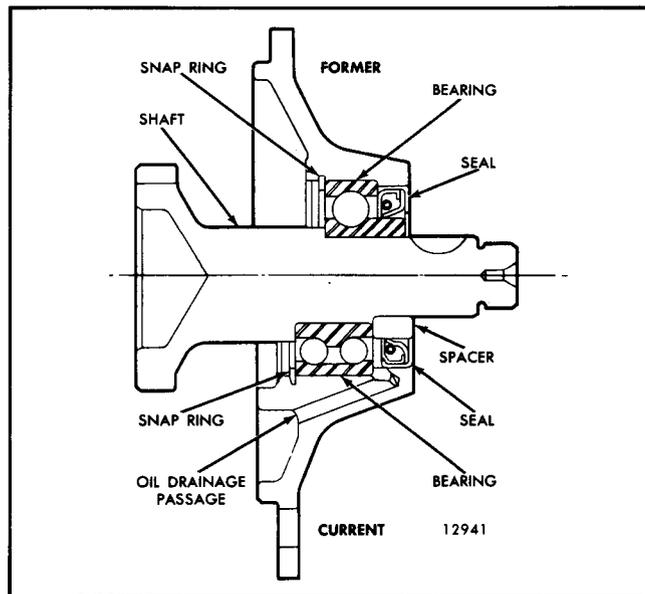

Fig. 6 - Former and Current Drive Plate Type Accessory Drive
**NOTE:** On former accessory drives (Fig. 6), install the bearing with the protruding face of the inner race towards the retainer.